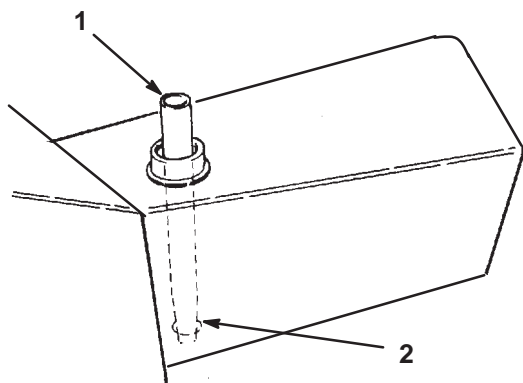

Figure 50
2. If only the filter is to be changed, remove the reservoir cap and insert the reservoir plug (Fig. 50) to block the outlet. This will retain most of the fluid in the reservoir when the filter is removed.